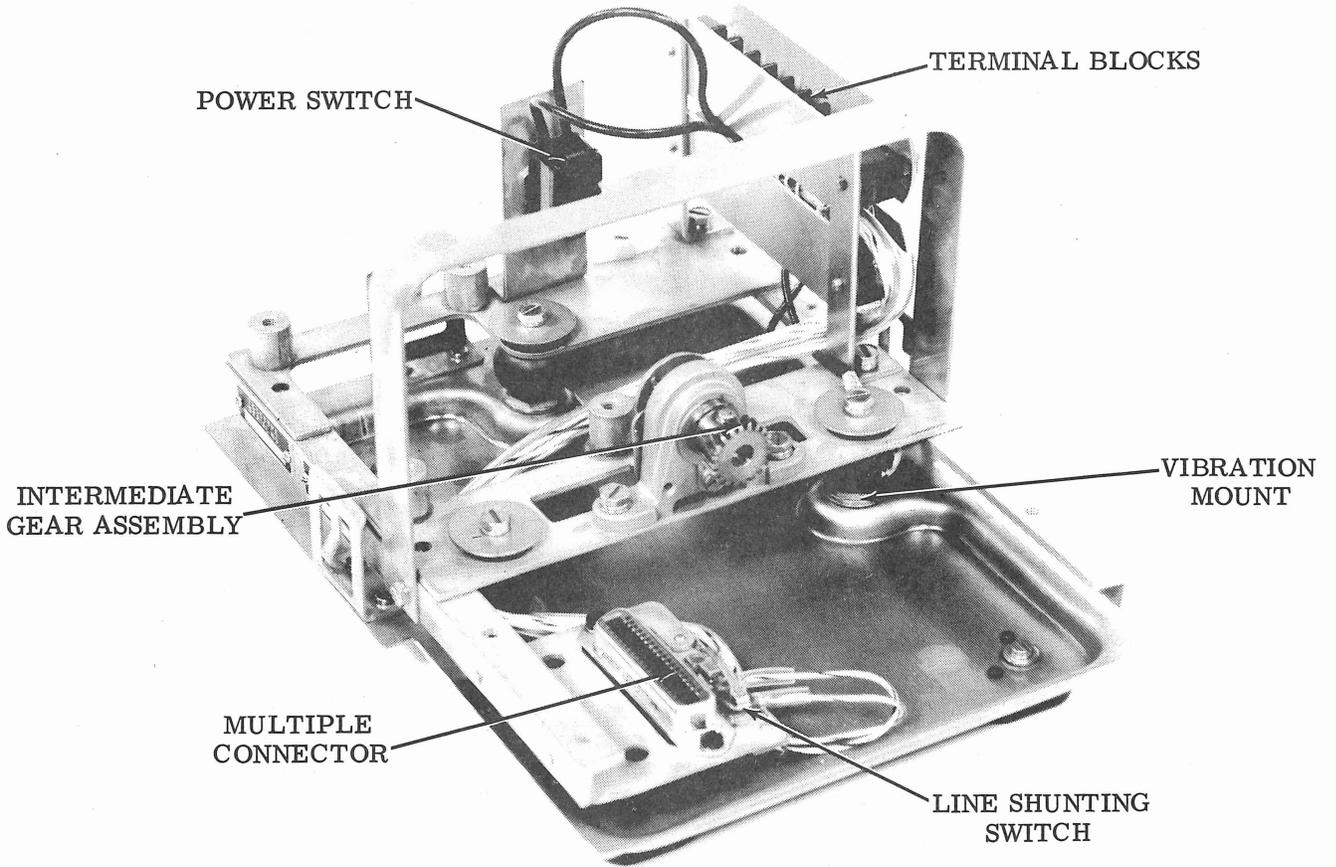

Figure 5 - Miniature Base
2.12 This base is designated miniature because of its compactness (Figure 5). The mounting facilities for a transmitter distributor are virtually the same as those for the single contact transmitter distributor base. However, this base is much shorter and lighter since the motor used on it is small and requires very little space for mounting.